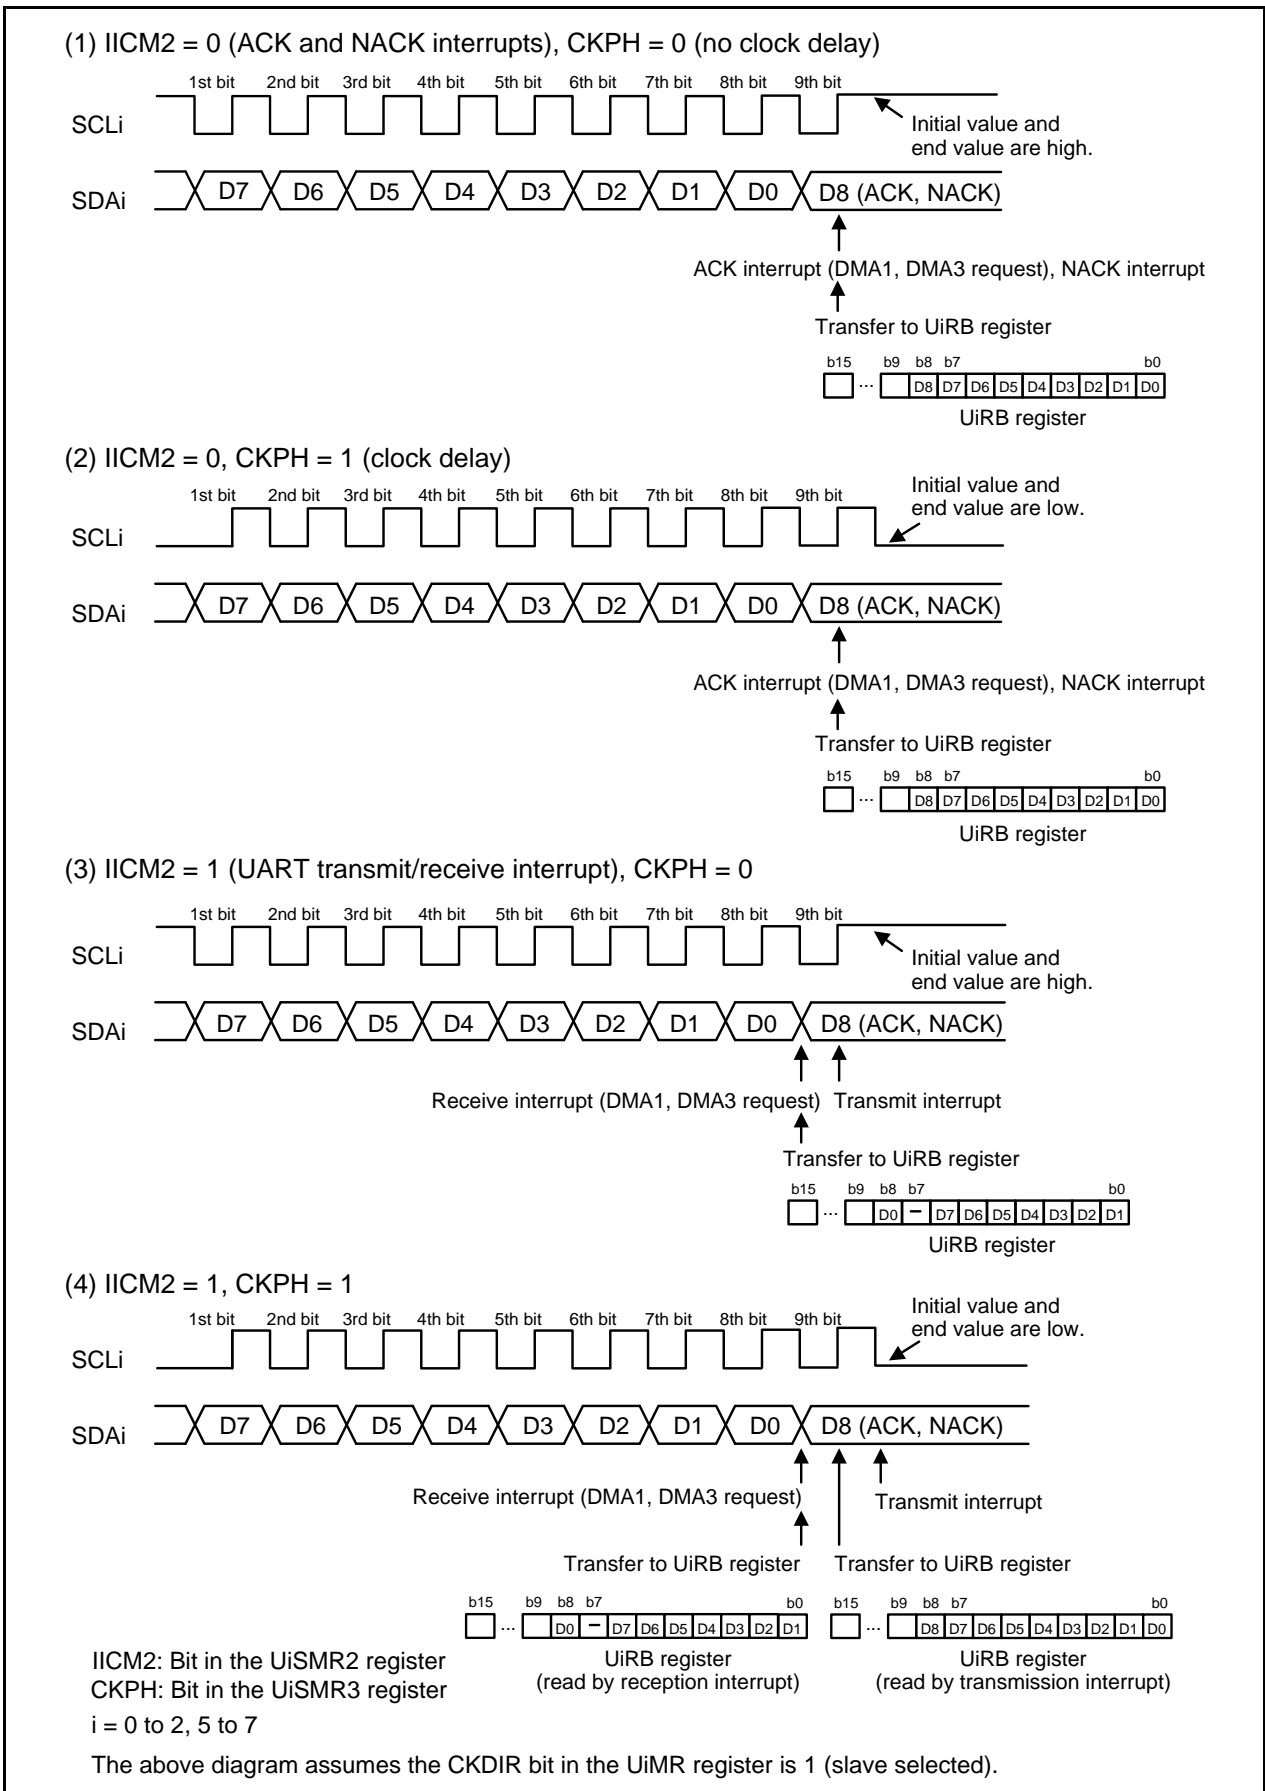

Figure 23.19 Transfer to UiRB Register and Interrupt Timing
In I2C mode, functions and timings vary depending on the combination of the IICM2 bit in the UiSMR2 register and CKPH bit in the UiSMR3 register. Figure 23.19 shows Transfer to UiRB Register and Interrupt Timing. See Figure 23.19 for the timing of transferring to the UiRB register, the bit position of the data stored in the UiRB register, types of interrupts, interrupt requests, and DMA request generation timing.
2. See Figure 23.19 "Transfer to UiRB Register and Interrupt Timing".
The transmit/receive clock is used to transmit/receive data as is shown in Figure 23.19.